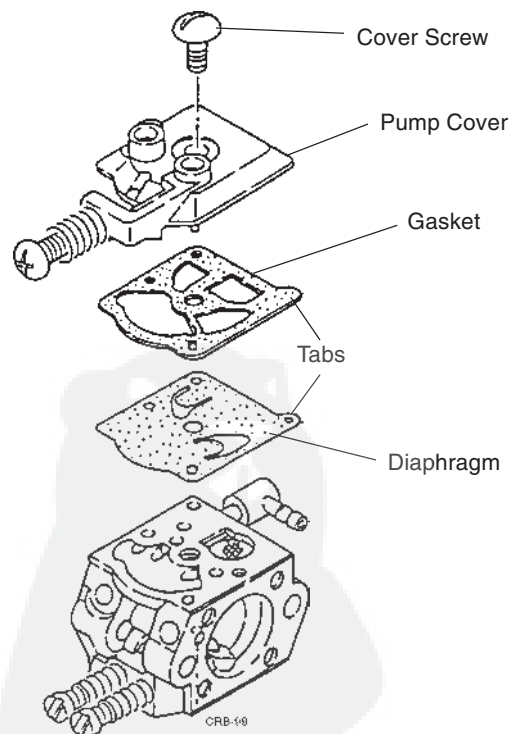

Figure 3.12 Fuel Pump Diaphragm (WT Carburetor)
- STEP 1.** Turn the carburetor body over, and unscrew the pump cover screw. Remove the pump cover, gaskets and diaphragm (Figure 3.12).